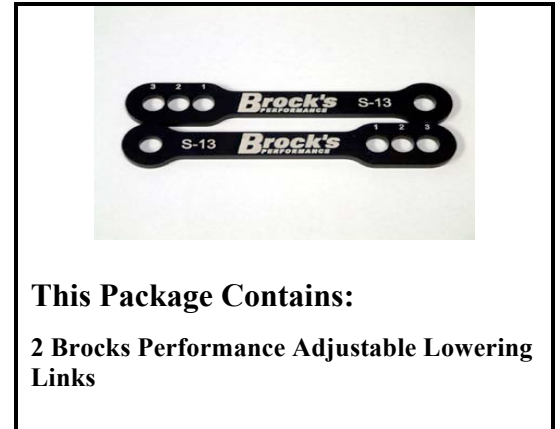

Fig 1
1. Rear of bike **MUST** be **SOUNDLY SECURED** during installation! (Fig 1) See Helpful Hint Below.